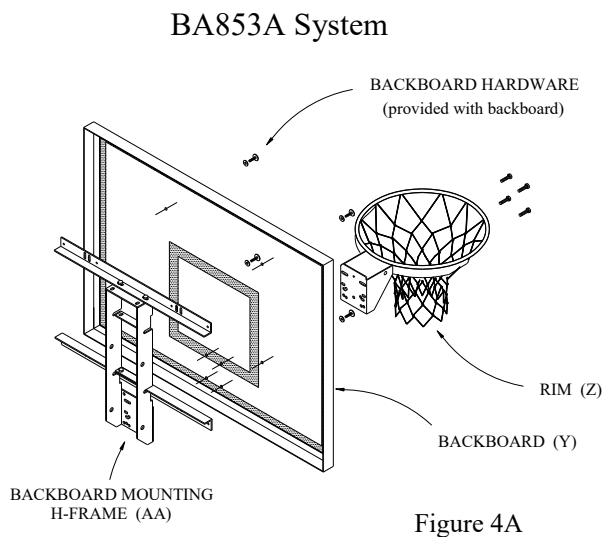

Figure 4A
10. Use the instructions supplied with the *Backboard Mounting H-Frame (AA)* you have purchased and pre-assemble the *Backboard (Y)* and the *Backboard Mounting H-frame (AA)*. See Figure 4A and 4B.
11. Mount the selected *Rim (Z)* to the backboard/mounting H-frame assembly using the hardware provided with the *Rim (Z)*. See Figure 4A and 4B.